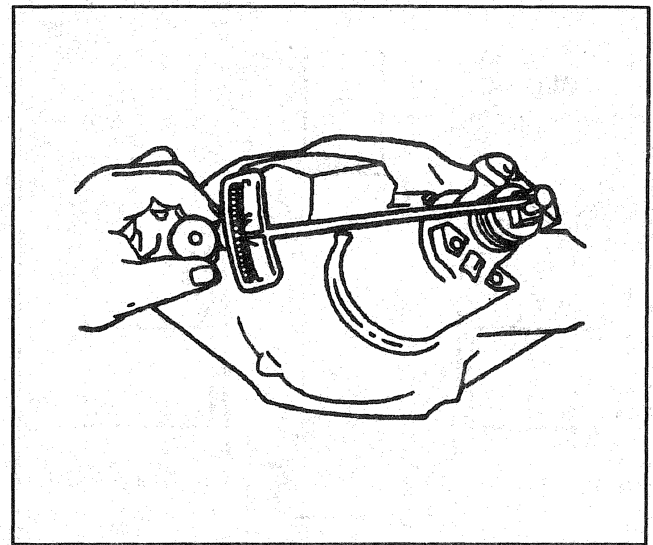

Figure 18—Checking Pinion Bearing Preload
- Remove J 8614-01. Using an inch-pound torque wrench, check the pinion preload by rotating the pinion with the wrench. Preload should be at or below 1.7 to 3.4 N.m (15 to 30 lb in) on new bearings, or 1.1 to 1.7 N.m (10 to 15 lb in) for used bearings (Figure 18).